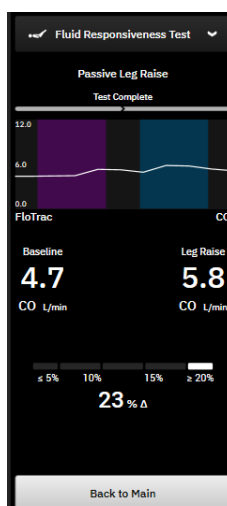

Figure 13-22 Fluid Responsiveness Test – results screen
- 11** At the conclusion of the test, the change in the selected **Parameter** value as a response to the fluid challenge will be displayed. See Figure 13-22. Touch the **Back to Main** button to perform another test, or the hide side panel by touching **Clinical Tools** icon  on the navigation bar to return to full display of the main monitoring screen.
- 11 At the conclusion of the test, change in the selected **Parameter** value as a response to the fluid challenge will be displayed. See Figure 13-22. Touch the return icon to perform another test, or the home icon to return to the main monitoring screen.